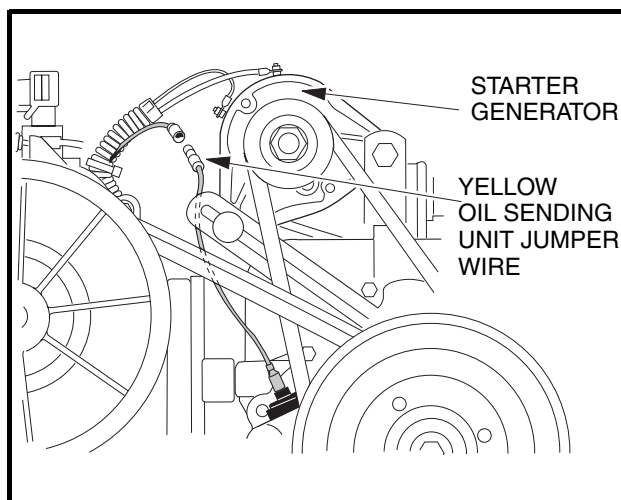

Figure 18-44 Oil Level Sensor Jumper wire
20. Connect the oil level sensor wire (18-gauge yellow) to the jumper wire (**Figure 18-44, Page 18-16**).